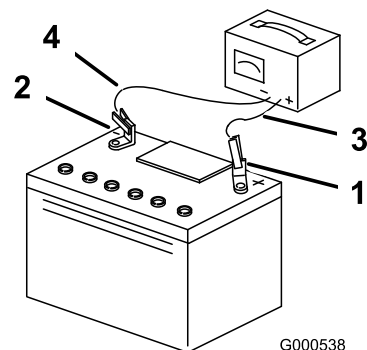

Figure 48
5. When the battery is fully charged, unplug the charger from the electrical outlet, and disconnect the charger leads from the battery posts (Figure 48).